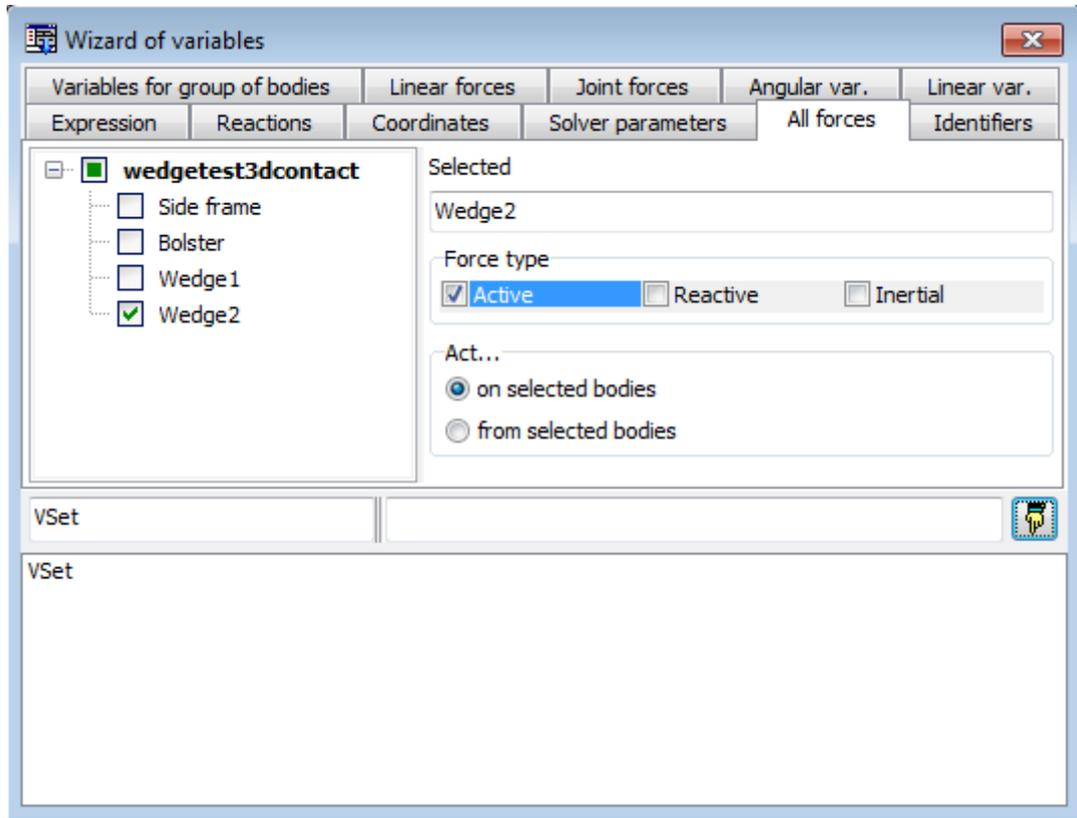

Figure 4.101. Wizard of variables: all forces
- Please note that it is possible to show contact forces in animation windows of **UM Simulation**. There are two ways to do that. (1) Firstly make sure that the **Mouse pick mode** () is on then point mouse at interesting body and click **Show forces for [Body]** menu item in the context menu. (2) Show **Wizard of variables**, select **All forces | Sets of vectors** tab, choose the interesting body in the left list of bodies and select necessary options in groups **Types of forces** and **Act**, see Figure 4.101. Please note that contact forces are **Applied** ones, that is why to show contact forces it is necessary to check on just **Applied** flag in **Types of forces** group. Please also note that in that case all applied forces will be shown including gravity and other applied force, see Sect. 4.3.2.7.